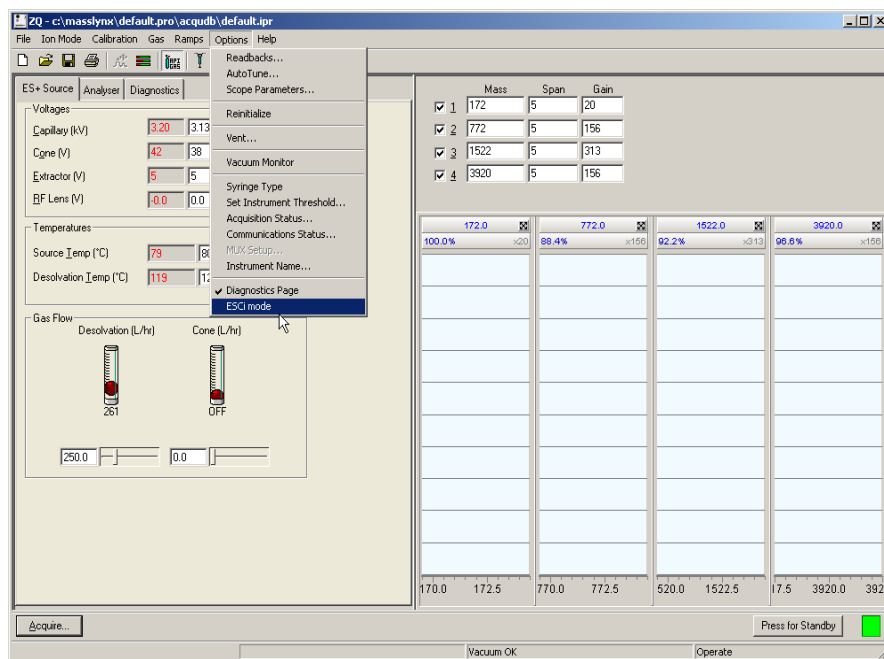

Figure A-12 ESCi Mode Disabled
9. Select **Options > ESCi mode** to disable ESCi mode and resume normal ESI or APCI operation (Figure A-12). The check mark associated with ESCi on the drop-down list disappears, as does the Ion Mode column from the Peak Editor.